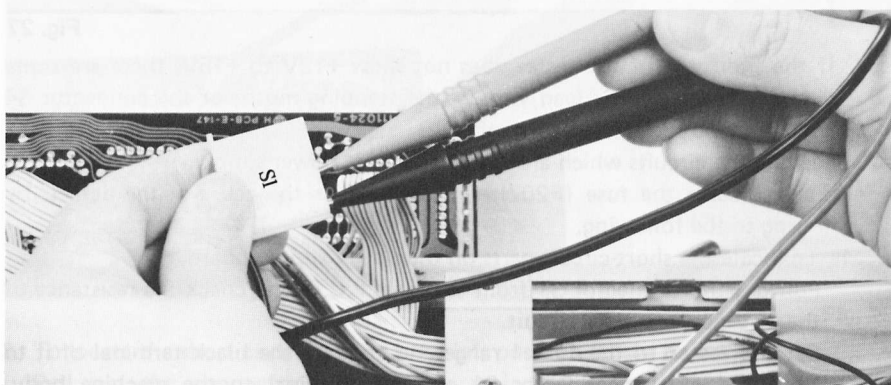

Fig. 23
- 2). Set the tester to the  $\Omega \times 1$  range and connect the black terminal of the tester to No.1 (orange cord) and the red terminal to No.2 pin (black cord) of the connector S1. (Fig. 23).